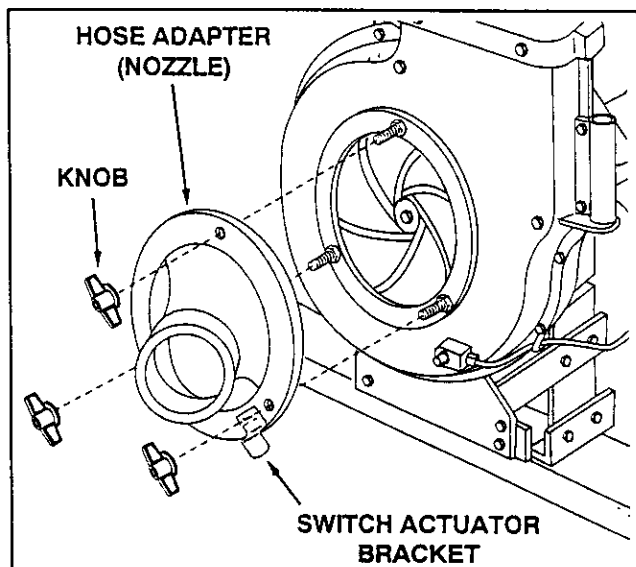

FIGURE 24
- (2) 3/4" Wrenches (only if figure 24 on page 14 is used)
- Assemble the hose adapter (nozzle) to the front of the housing and secure with the three knobs. Make sure that the switch actuator bracket contacts the switch on the housing. See figure 24.